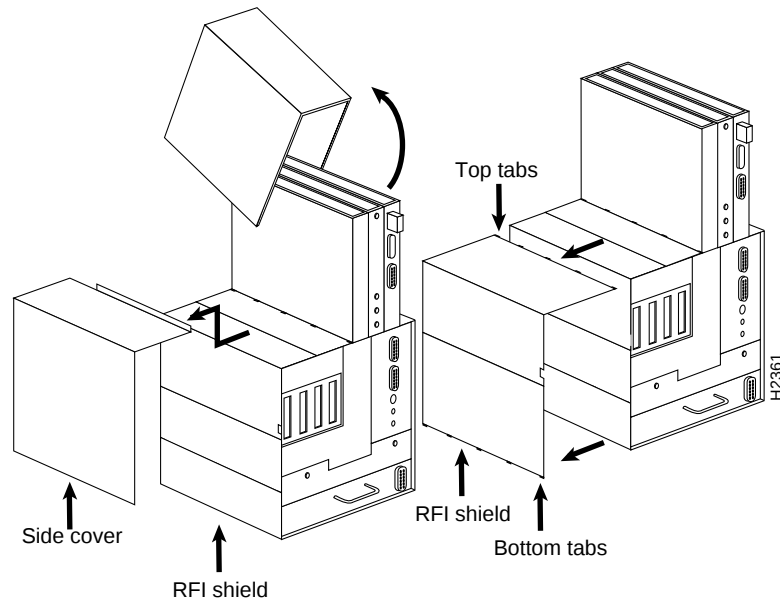

Figure 4-2 Model 750 Cover and RFI Shield Removal
Step 2 Model 750: unscrew the knob to remove the top and side covers. Push down on the top of the radio frequency interference (RFI) shield to release the top tabs. Pull the shield up and away from the workstation to release the bottom tabs. See Figure 4-2.